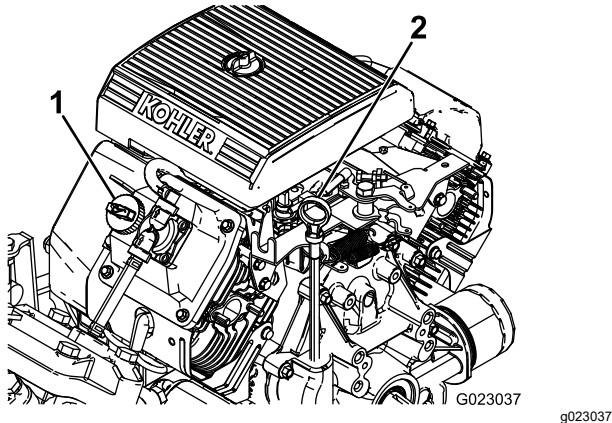

Figure 10
2. Remove the dipstick and wipe it with a clean rag (Figure 10).
4. If the oil level is low, remove the filler cap from the valve cover (Figure 10) and pour oil into the opening until the oil level is up to the FULL mark on the dipstick; refer to Servicing the Engine Oil \(page 48\) for the proper oil type and viscosity.